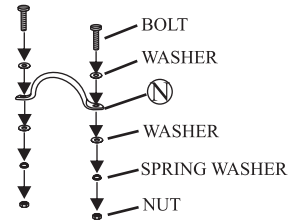
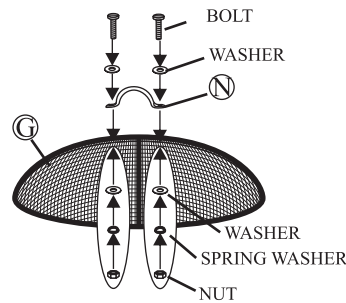

Figure 4
Figure 5
Step 5: Remove nuts, washers and spring washers from the handle as shown in *Figure 4*. Attach handle (N) to mesh cover (G) using bolts, washers and spring washers as shown in *Figure 5*. Tighten but do not over tighten nuts.